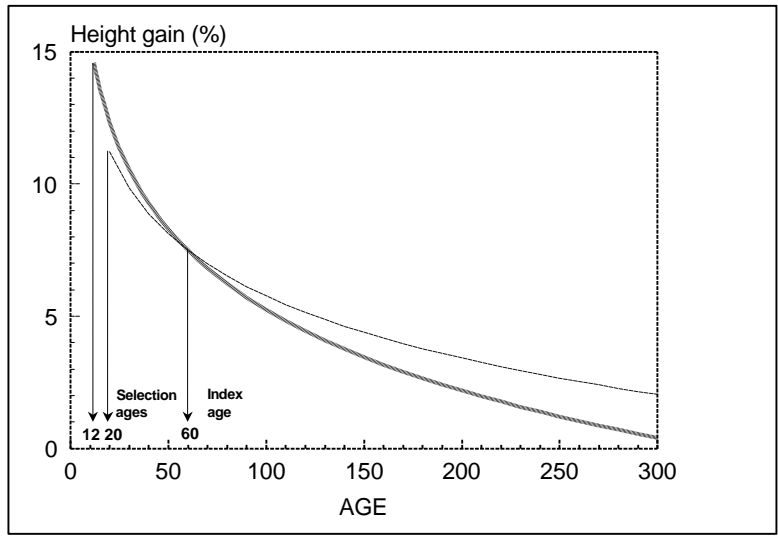

Figure 5. Genetic Height Gain %
- Genetic Gain (Figures 5 and 6)